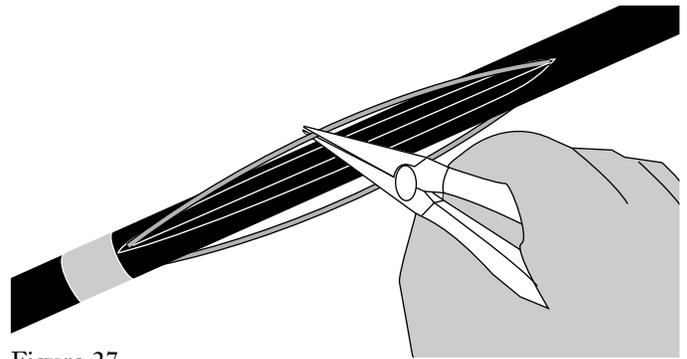

Figure 27
7.6 Using needle nose pliers, bend the embedded steel rods away from the cable sheath (Figure 27).